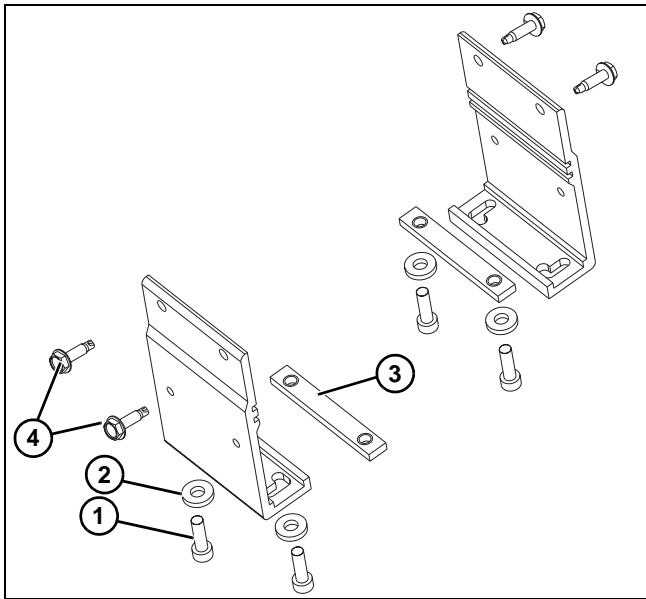

Figure 9
1. Locate brackets. Exploded views shown in Figure 9.
2. Remove screws (Figure 9, item 1), washers (Figure 9, item 2), and connector bar (Figure 9, item 3) from brackets.
3. Locate and retain self-drilling screws (Figure 9, item 4).